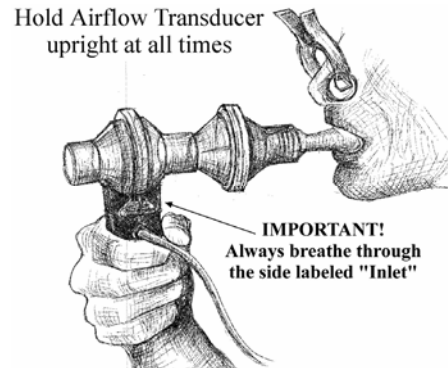

Fig. 12.11 Keep the Airflow Transducer upright at all times
- d) Keep the Airflow Transducer upright at all times (Fig. 12.11).